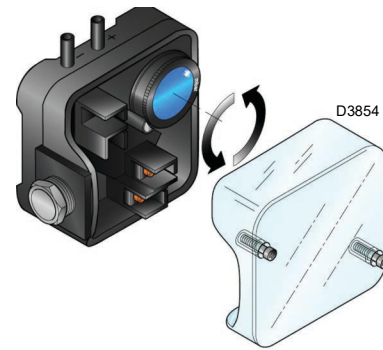

Fig. 48
- Adjust the air pressure switch (Fig. 48, pag. 41) to the start of the scale.
For the RLAS 1000-1200 burner model, the air pressure switch is connected in absolute mode and is activated by the positive pressure from the fan (Fig. 48).
Adjust the air pressure switch (Fig. 48) after having performed all other burner adjustments with the air pressure switch set to the min. of the scale.